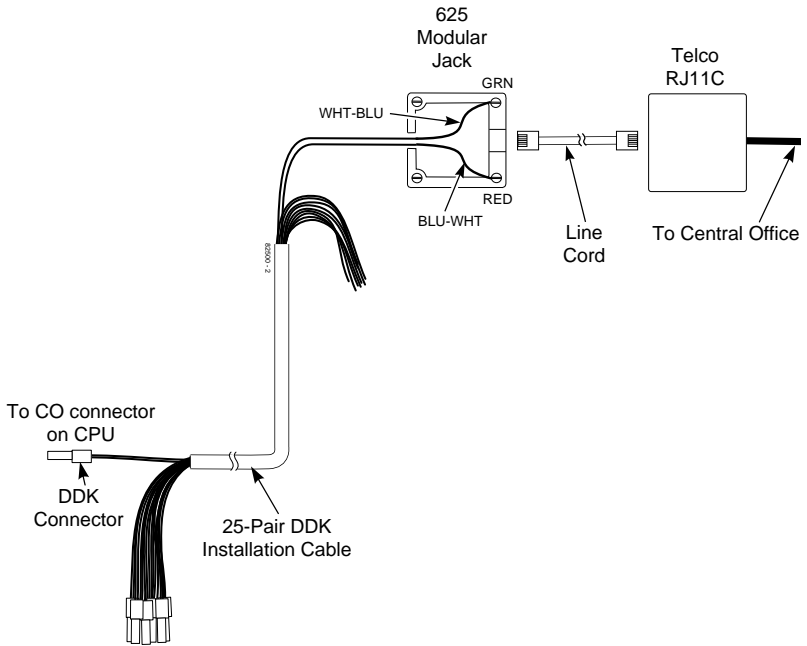

Figure 3-8 CONNECTING TRUNKS
2. For each trunk, run one pair of wires from the DDK connection to a 625 modular jack, which then connects to the telco's RJ11C jacks using a standard line cord (Figure 3-8 on the following page).